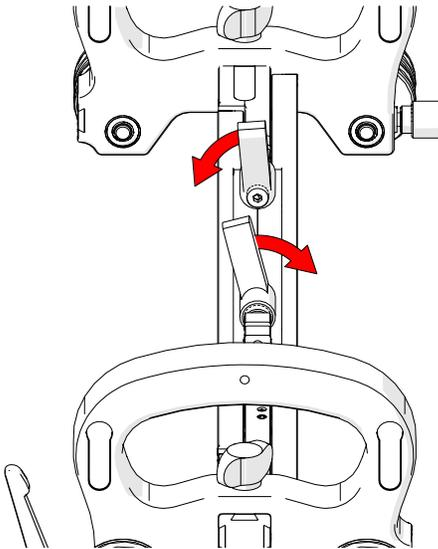

Fig. 94 - Lock dual pivot frame bar levers
2. Ensure the ratchet levers of the dual pivot frame bar are tightly locked (Fig. 94)
- Loosen the dual pivot frame bar's ratchet levers (Fig. 94) to pivot the frame.